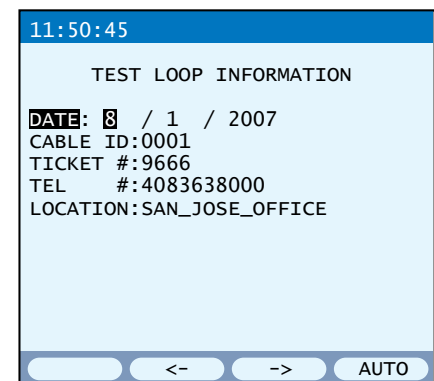

Figure 71 Test Loop Information Screen
- C. Press SAVE (F4) to store the entry and return to the TEST LOOP INFORMATION screen, as shown in Figure 71.